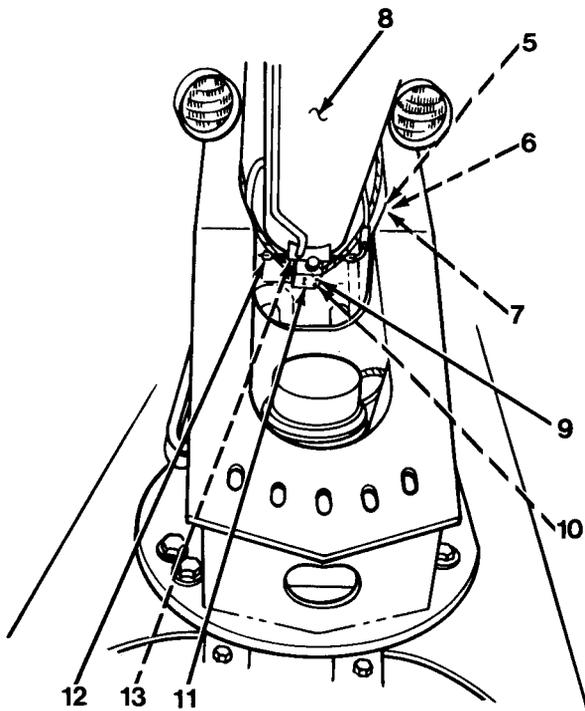

Figure 13-3
7. Remove capscrew and lockwasher (5), rod (6) and pin (7). Boom hoist cylinder (8, Figure 13-3) is now free. Carefully lift out of upper-structure and move to work area.
9. Remove four capscrews (9), lockwashers (10), hold valve and O-rings (11), two adapters (12) and O-rings (13).
1. Install two O-rings (13) on adapters (12). Position hold valve and O-rings (11) on boom hoist cylinder (8) and install four lockwashers (10), capscrews (9, Figure 13-3) and two adapters (12).